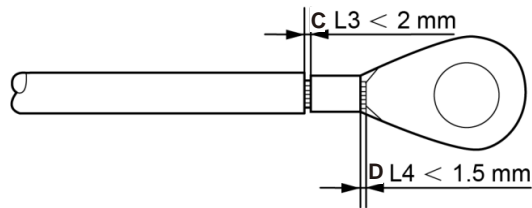

Figure 5.8 Strip wire
4. Insert the stripped wire into the OT terminal crimping area and use the hydraulic clamp to crimp the terminal to the wire (see Figure 5.8).